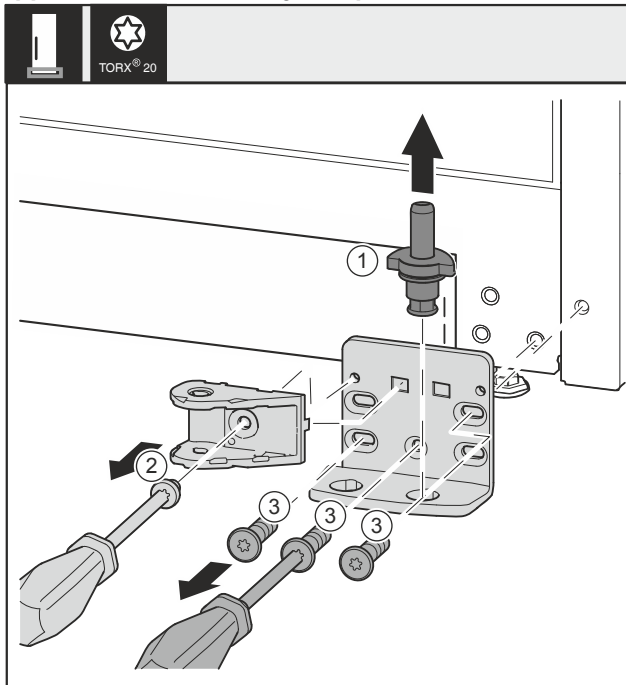

Fig. 31
- Completely pull out the bearing pin Fig. 31 (1) upward.
- Use a screwdriver to unscrew the screw Fig. 31 (2) and remove the closing damper connection.
- Use a screwdriver to unscrew the screws Fig. 31 (3) and remove the swap bearing block.